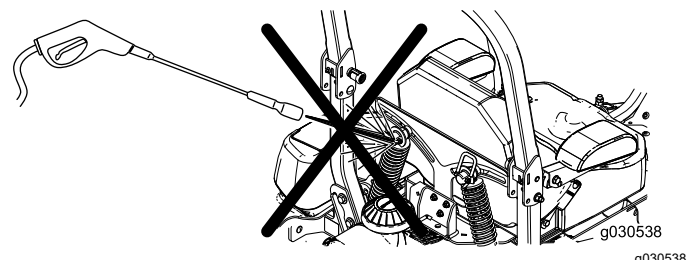

Figure 105
**Note:** Do not clean the shock assemblies with pressurized water (Figure 105).